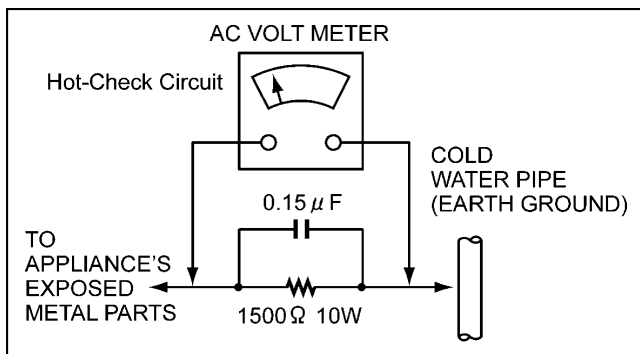

Figure1
LEAKAGE CURRENT HOT CHECK (See Figure 1)
2. Connect a $1.5k\Omega$, 10W resistor, in parallel with a $0.15\mu F$ capacitor, between each exposed metallic part on the set and a good earth ground such as a water pipe, as shown in Figure1.